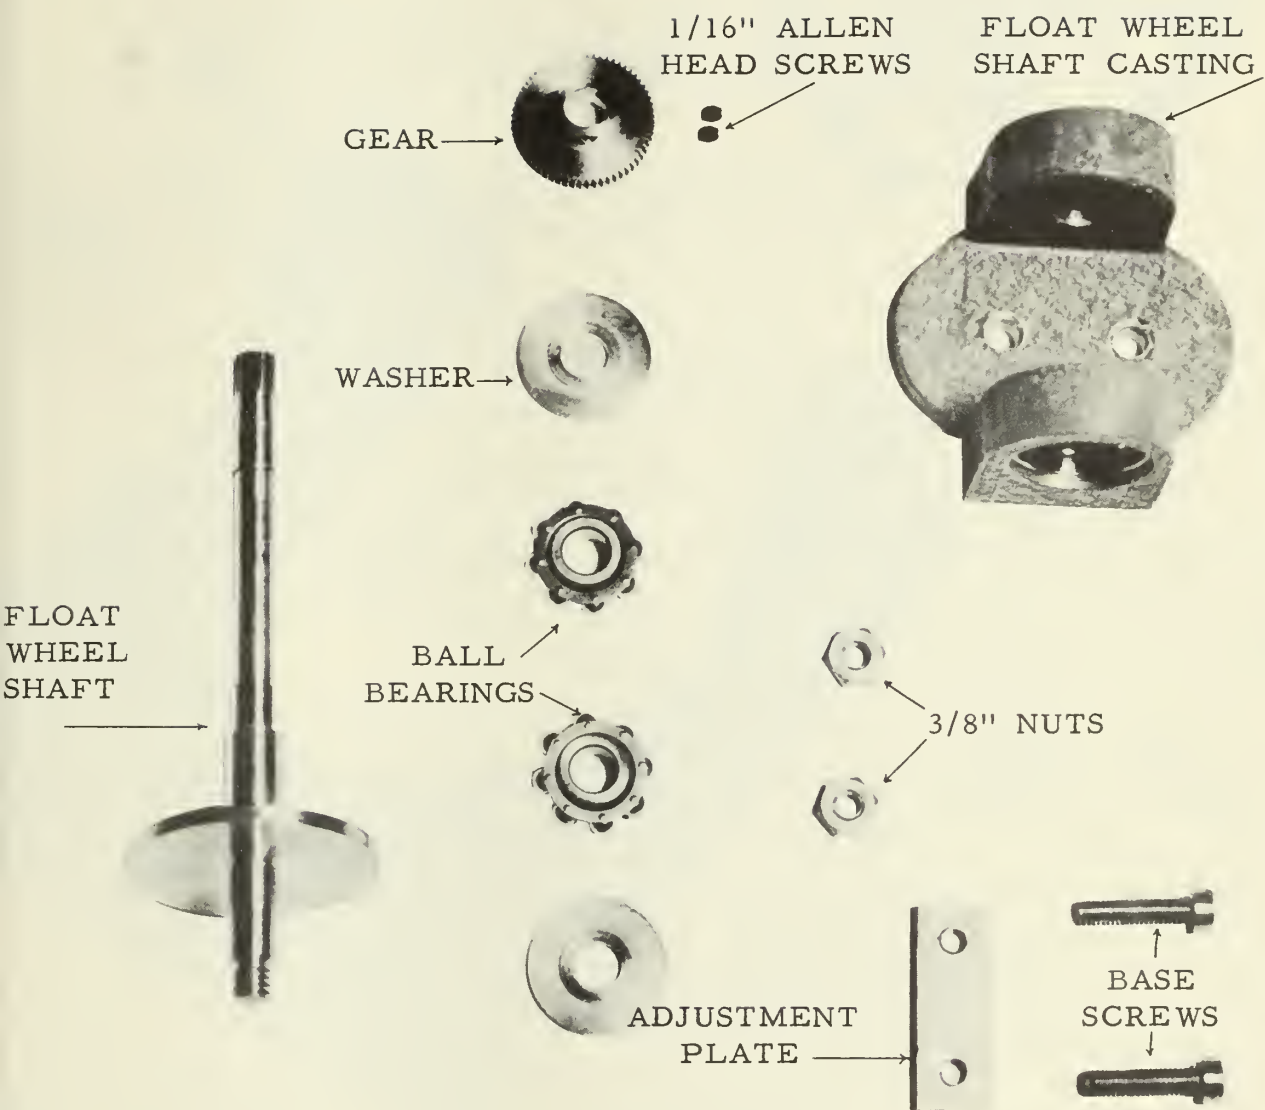

Figure 4. --Type B. Float wheel shaft, detail of parts.
- i. Clean tapered pin with steel wool if corroded. If pin is bent, replace. Use tweezers to start pin in large hole in gear. Drive pin with nail set and hammer. A light tap should seat pin. On type B instruments (fig. 4) the gear is placed outside the float wheel casting with 1/16-inch allen head screws. When reassembling do not bind the gear against the washer for shaft will not turn freely. Keep gear slightly away from washer to avoid binding float wheel shaft.